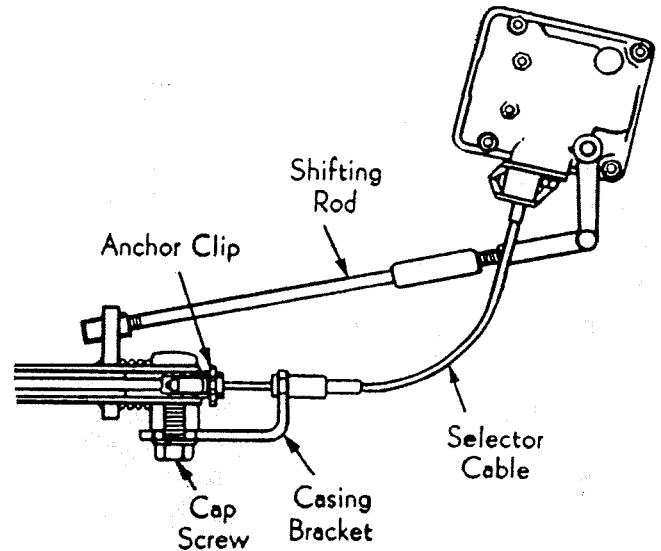

Fig. 26—Hudson 1939-42
1939-42: (See Fig. 26.) (1)—Raise the front end of the car and work from underneath. (2)—Remove the clevis pin and cotter pin in the yoke end of the operating rod at the transmission end. (3)—With the transmission cover lever and hand control lever in neutral, loosen the yoke lock nut and turn the yoke until the clevis pin will drop into the lever without moving either levers.